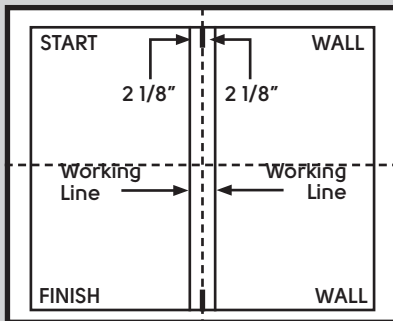

Fig 2.
2. Measure 2 1/8" from the left and right of the center mark at both ends of the room and strike a chalk line (Fig 2.).